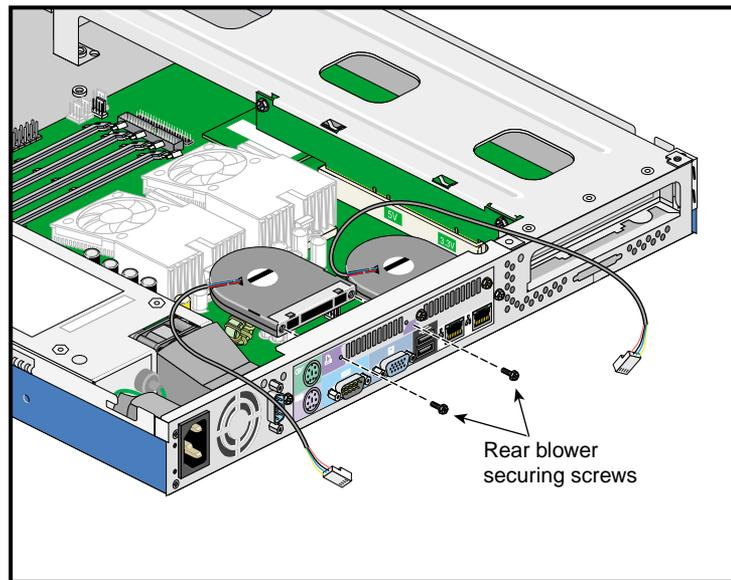

Figure 2-14 Rear System Blower Securing Screws
2. Release two screws to remove the blower as shown in Figure 2-14.
1. Place the blower on its opening on the rear panel as shown in Figure 2-14